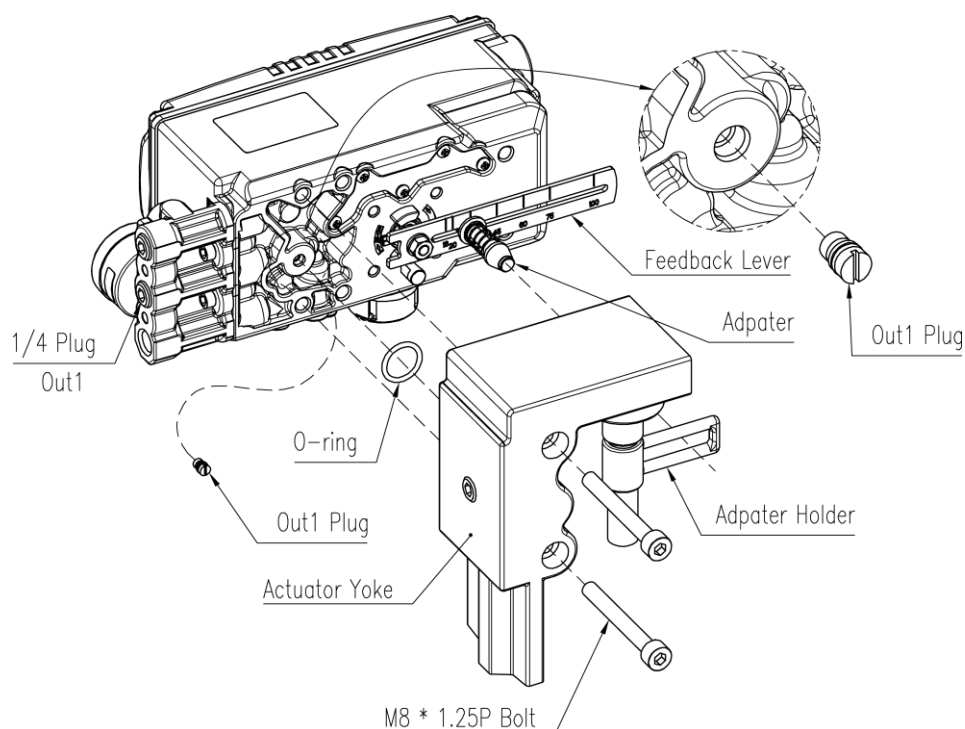

Fig. 3-18: Installing the positioner on the actuator
1. Remove Out1 Plug(Fig. 3-18) on the bottom of the positioner. Plug up out1 port of gauge block with 1/4 plug using sealant.